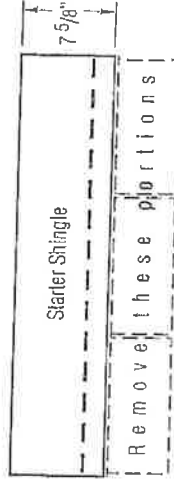

Figure 12-6: Make starter shingles that are 7 5/8" in height.
1. Use CertainTeed Swiftstart Starter, or three-tab self-sealing shingles with the lower tab portions removed. Be sure that the starter shingles are at least 7 5/8" in height. (Figure 12-6).